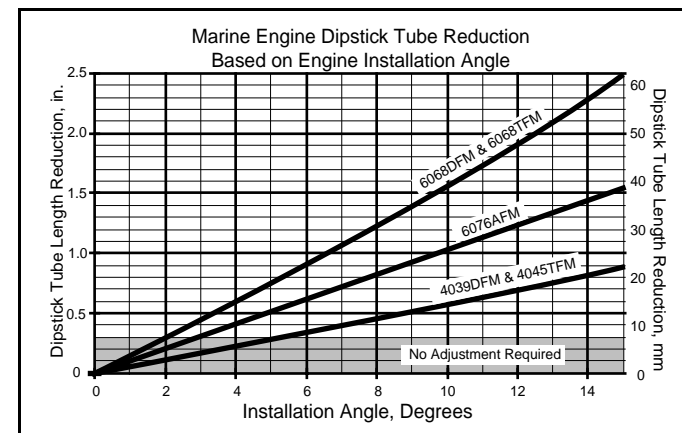

Figure AG-25 - 1
- Measure the engine installation angle. Remark the dipstick as shown in Figure AG-25 - 1.
Before the sea trial test, review the installation to confirm proper engine oil and coolant levels. Install instrumentation required for the test. (See Figure AG-25 - 2, Test Instrumentation.) All lines of data are to be used with these exceptions:
For test port sizes and locations, consult "Test Port Locations and Instrumentation" table and Figure AG-25 - 3, "Test Port Locations."
## TEST INSTRUMENTATION - - Figure AG-25 - 2